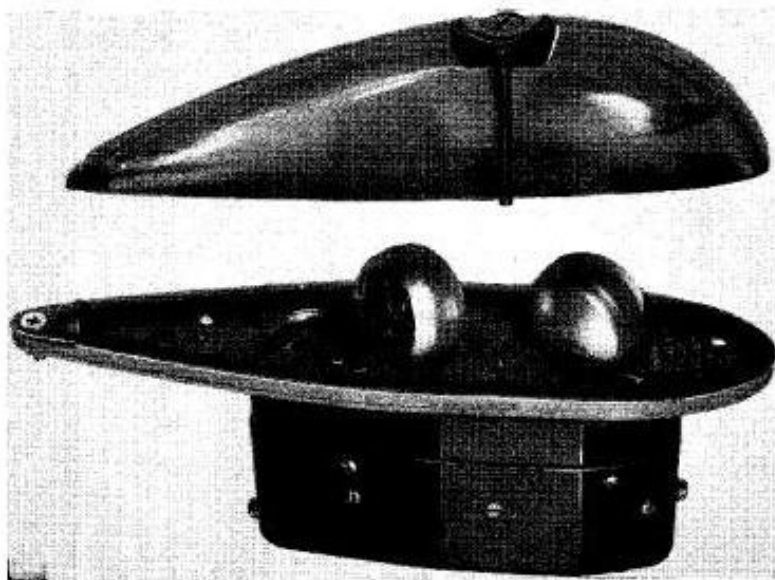

Fig. 1. General view of lamp with lens removed
1. The Grimes tandem oscillating lamp Type G—9950—4 is a twin filament, motor driven, flashing lamp used as an anti-collision or rendezvous lamp (shown in fig. 1). The lamp can be mounted on the aircraft upper or lower surfaces and is so designed to minimise drag in flight; when installed only the lens protrudes above the aircraft skin. The lamp is designed to give 80—90 flashes per minute and is supplied from a 28 volt source, each filament lamp is of 40 watt and the motor 3.3 watt.
one facing forward, and one facing aft, as shown in fig. 1.